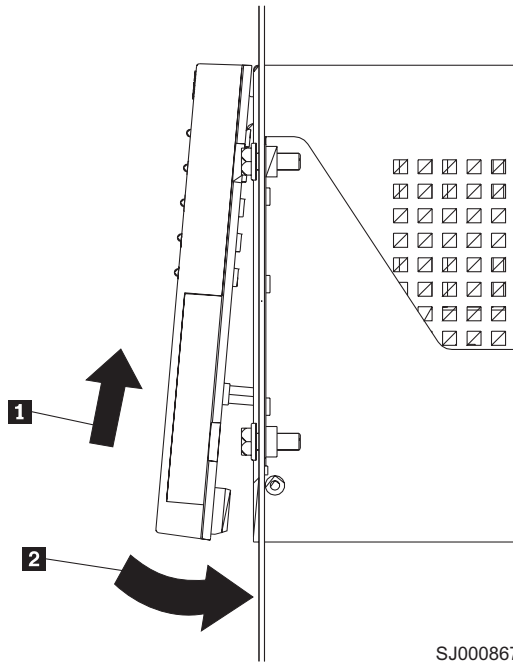

Figure 10. Replacing the controller-unit bezel (machine types 3552 [FASt500] and 1742 [DS4400 and DS4500])
4. To replace the bezel, slide the top edge under the lip on the chassis **1**. Then push the bezel bottom until the pins snap into the mounting holes **2**, as shown in Figure 10 on page 50.